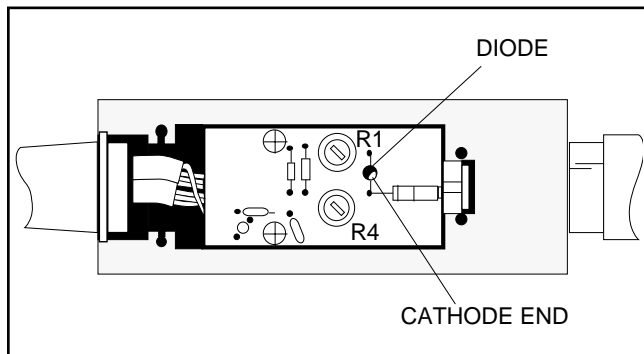

Figure 6. Model 5400-71B50 and 5400-71B75 RF Detectors Housing Layout Diagram
a. Required Adjustments Whenever the detector diode (or diode module) of the RF detector is replaced, the two potentiometers that are part of the RF detector PCB subassembly (Figures 6 (below) and 9 (page 6)) must be readjusted. The potentiometer readjustment is done after the de-
2. Unplug the defective diode (Figure 6) from the PCB subassembly and remove.
11. Orient the cathode end (white dot) of the replacement diode as shown in Figure 6 (white dot towards centerline of the detector PCB subassembly). Insert the diode into the socket of the PCB subassembly.